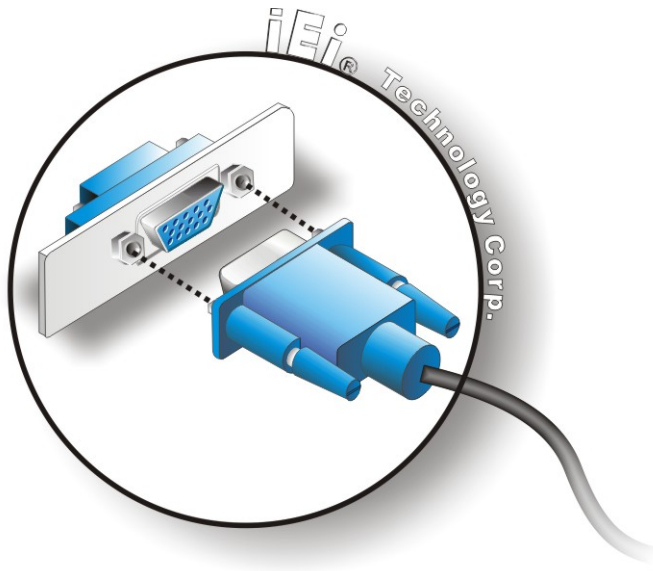

Figure 5-26: VGA Connector
- Step 3:** **Insert the VGA connector.** Once the connectors are properly aligned with the insert the male connector from the VGA screen into the female connector on the WAFER-9102. See **Figure 5-26**.